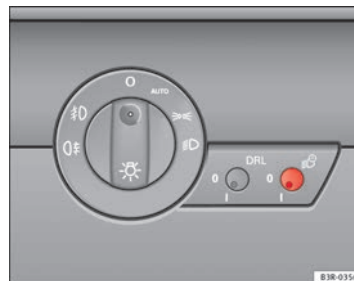

Fig. 86 Detailed view of the dash panel: Coming home and leaving home functions
- Briefly press the knob ⇒ **fig. 86** to release it from its set position.